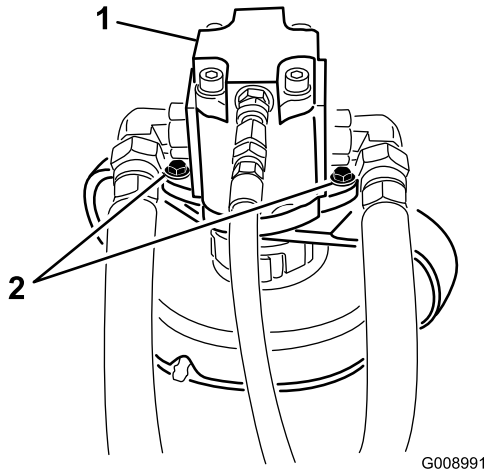

Figure 1
3. Remove the bolts securing the hydraulic motor to the cutting unit (Figure 1). Lift the motor off of the cutting unit and position it away from the cutting unit.
13. Install the hydraulic motor to cutting unit with the bolts previously removed (Figure 1).